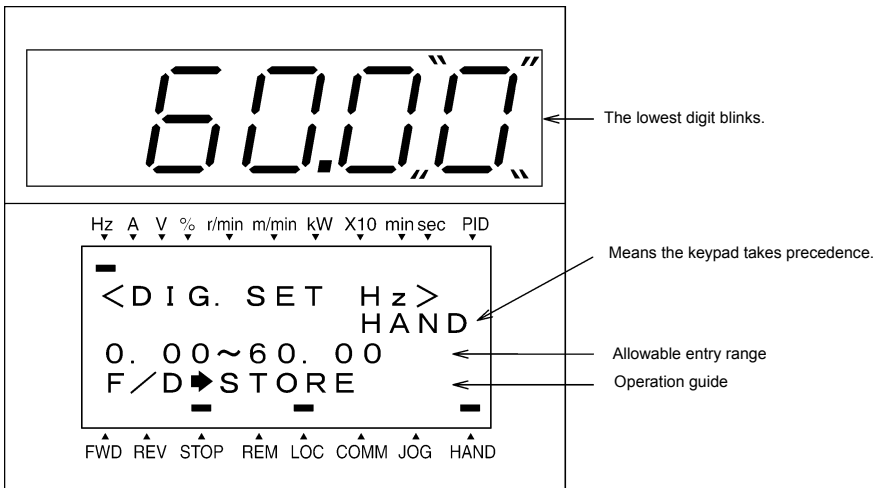

Figure 3.2 Example of Frequency Command Configuring Screen
- (1) Set function code F01 at "0" or "8" ( $\triangle$  /  $\nabla$  keys on keypad). This cannot be done when the keypad is in Programming mode or Alarm mode. To enable frequency setting using the  $\triangle$  and  $\nabla$  keys, first place the keypad in Running mode.
- (2) Press the  $\triangle$  or  $\nabla$  key. The 7-segment LED monitor displays the frequency command and the LCD monitor displays the related information including the operation guide, as shown in Figure 3.2.